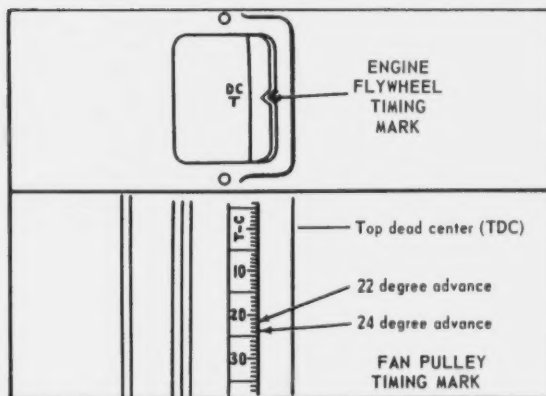

Fig. 67—Typical Engine Timing Marks (Spark-Ignition Engine)
1. Locate the timing marks on the engine flywheel or fan pulley (Fig. 67). Your operator's manual should tell you where they are and which ones to use. Usually there are several marks before and after TDC (top dead center). If the marks are difficult to see, mark over them with chalk or paint to make them more visible.
1. Locate the timing marks on the flywheel or fan pulley (see Fig. 67) just as you did in the previous method. However, you will probably use a different mark—see the operator's manual.